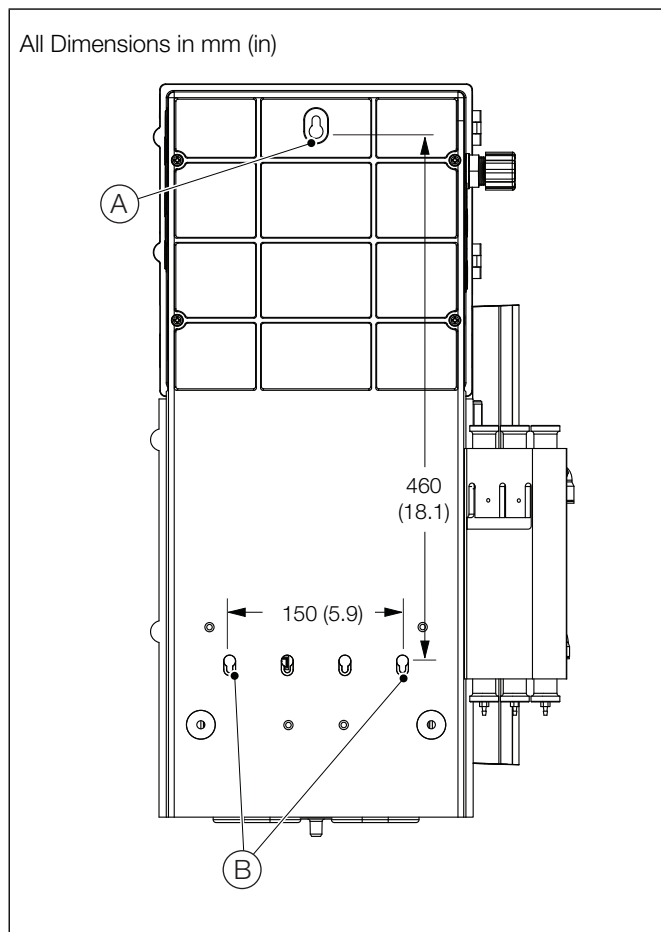

Fig. 4.2 Mounting the Analyzer
1. Mark the wall using the dimensions shown in Fig. 4.2.
2. Drill and plug the three holes (A) and (B), suitable for M6 or 1/4 in. screws/bolts.
3. Screw in the top bolt (A), leaving a gap of 20 mm (0.78 in.) between the screw head and the wall.